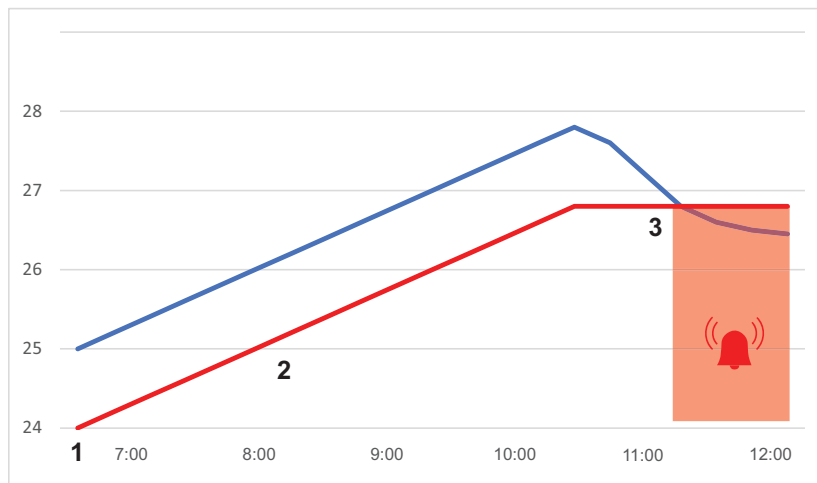

Figure 4.12. TrakLo Alarm Behavior
- The initial TrakLo alarm limit is set at 1°C below the current patient temperature (1 in Figure 4.12). The lowest the TrakLo alarm limit can be set to by the system is 13°C (54.5°F). The TrakLo alarm limit will be automatically set to 13°C only if the initial patient temperature is at or below 14°C (57.2°F).
- As the patient temperature rises, the TrakLo alarm limit also rises to maintain 1°C below the patient temperature (2 in Figure 4.12).
- If the patient temperature drops by more than 1°C, the TrakLo alarm sounds. The TrakLo alarm limit remains the same, at the highest recorded patient temperature since the TrakLo alarm was activated (3 in Figure 4.12).